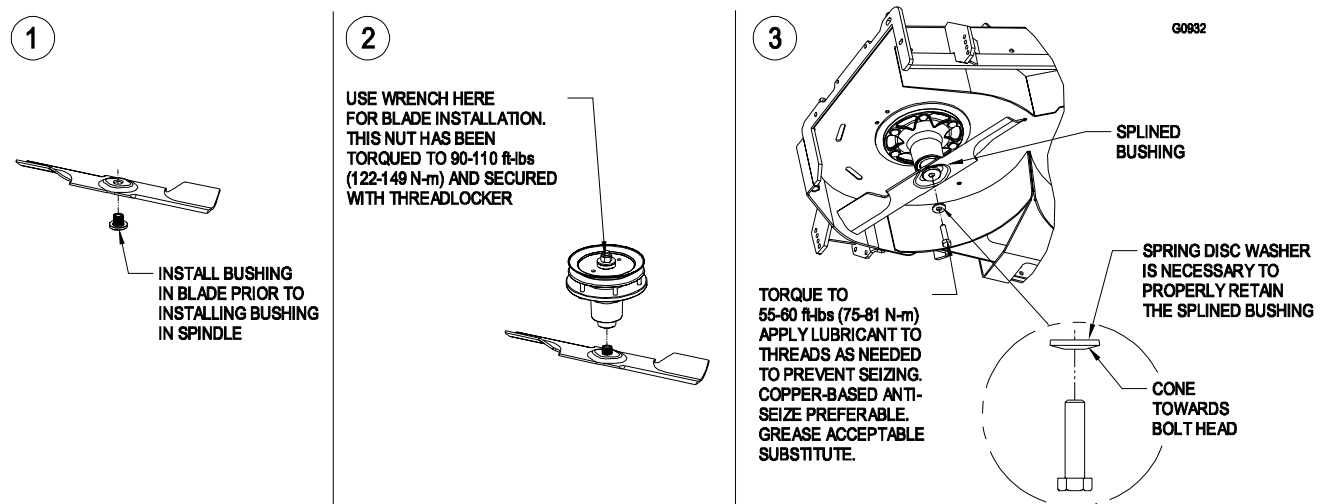

FIGURE 3
- Re-install the blades (if they were removed) in the following order (See Figure 3):